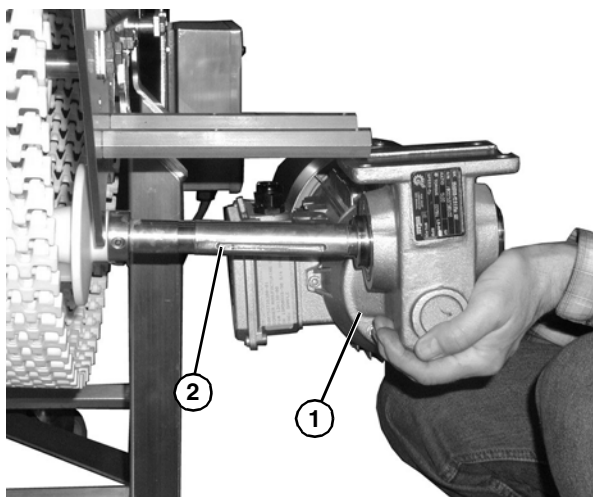

Figure 43
3. Slide the gearmotor assembly (Figure 43, item 1) onto the drive spindle (Figure 43, item 2).